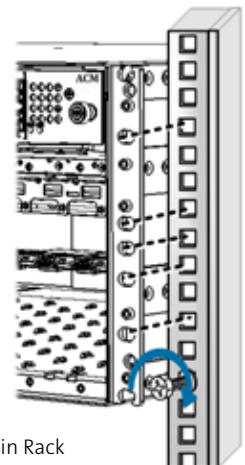

Figure 3. Positioning Chassis in Rack
**Step 2:** Referring to Figure 3, secure the units' rack ears to the rack frame as follows: